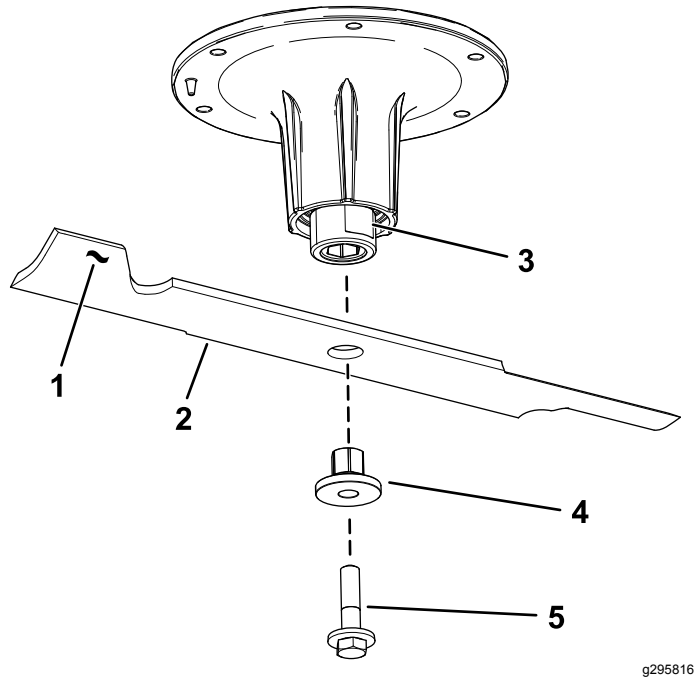

Figure 91
2. Remove the blade bolt, bushing, and blade from the spindle shaft (Figure 91).